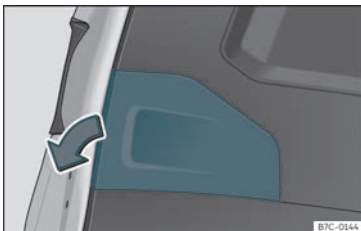

Fig. 51 Rear lid open: remove the cover.
- Remove the rear lid cover in the direction indicated»» Fig. 51.